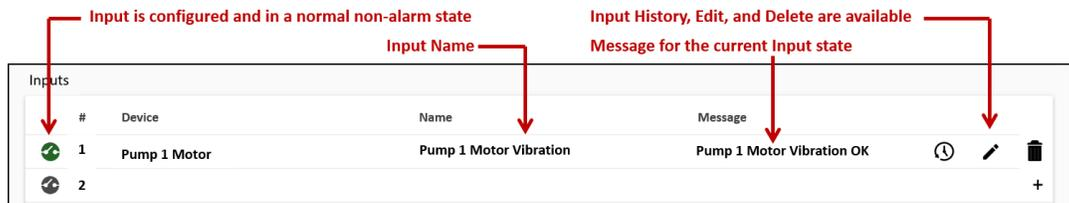

Figure 8: Input setup result
- ① Select the Device from the drop-down menu.
- ② Select the Normal Operating State [Normally Open or Normally Closed] from the drop-down menu.
- ③ Enter the Alarm Message Notification that contacts will receive when the Input changes state and the Alarm Cleared Message Notification that contacts will receive when the Input returns to its Normal Operating state.
- ④ Select the Alarm Severity, **Critical**, **Major**, **Minor**, **Warning**, or **Normal/Informational** from the drop-down menu.
- ⑤ Select the Alarm Delay time and the Clear Delay time from the drop-down menu to determine the duration of the change of state before notification messages are delivered. The Delay selection is required to confirm the existence of a valid alarm or cleared condition rather than a temporary fluctuation.
- ⑥ Enter [SAVE] the Input configuration. The created Input will now show the current operating and alarm state in addition to the History, Edit, and Delete icons being available [Figure 8].